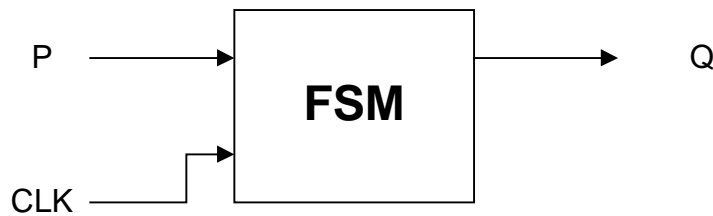

Figure 6
7. *Figure 6* shows a sequential circuit with one input P and one output Q. P changes shortly after the rising edge of CLK. On power-up, the Finite State Machine is always reset to an idle state.